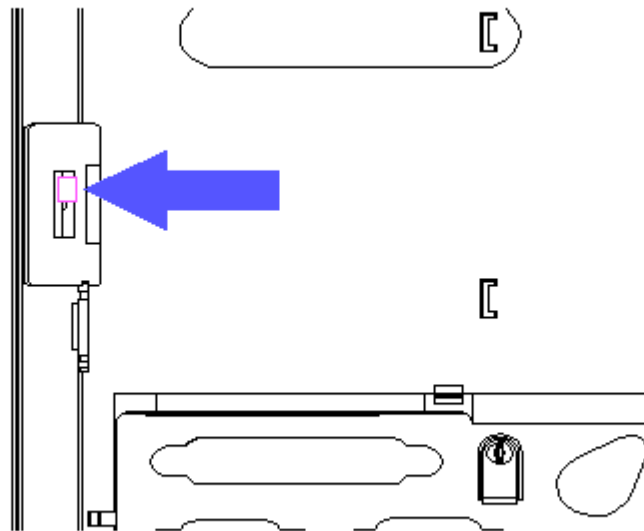

Figure 3-31. Releasing the Foot Latch Tab
4. Working from the inside of the back cover, release the tab that holds the foot latch in place (Figure 3-31).